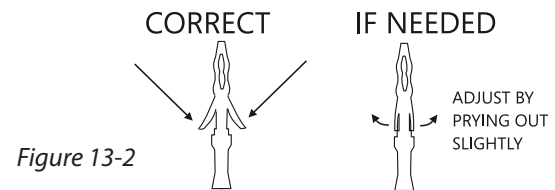

Figure 13-2
5. **Inspect the pin's retaining flanges.** The flanges may have been deformed while being run through the vehicle. These are critical to secure the pins inside the connector. Adjust as needed. [Figure 13-2]